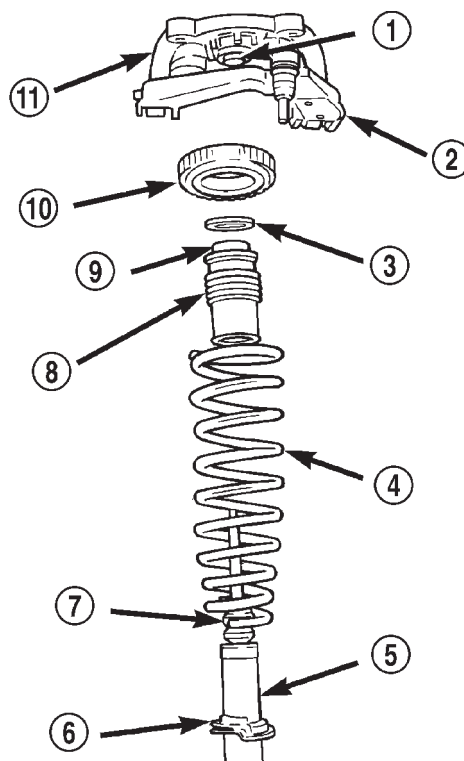

Fig. 68 Shock Assembly Components
(11) Remove the lower shock rod bushing retainer washer from the shock absorber rod (Fig. 68).
(12) Remove the dust shield and cup as an assembly from the shock absorber rod by pulling both straight up and off the shock rod (Fig. 68). The jounce bumper may come off at the same time. Remove the jounce bumper and metal collar.
(13) Remove the lower spring isolator (Fig. 68) from the lower spring seat on the shock absorber.
(14) Inspect the shock assembly components for the following and replace as necessary:
(6) Compress the coil spring.
(7) Install the lower spring isolator on the lower spring seat of the shock absorber (Fig. 68). When installing the spring isolator, be sure the isolator sets in the notch made for the lower coil spring end.
(10) Install the dust shield and cup (Fig. 68) onto the shock rod until the cup contacts the collar just installed. The dust boot will snap over the jounce bumper. Install the lower shock rod bushing retainer washer.